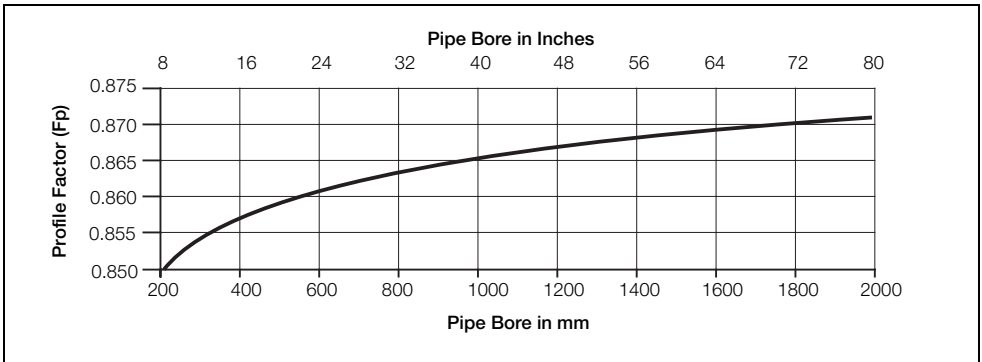

Fig. 4.1 Profile Factor vs Velocity for Pipe Sizes 200 to 2000 mm (8 in to 80 in)
2. Determine the profile factor Fp from Fig.4.1.
Fp = 0.861 (derived from Fig. 4.1)